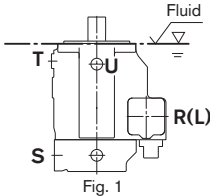

Fig. 1
a) When the minimum fluid level is equal to or above the pump mounting flange area (only possible for the sizes 71 and 125): ports »R/L«, »T« and »S« open (see fig. 1).